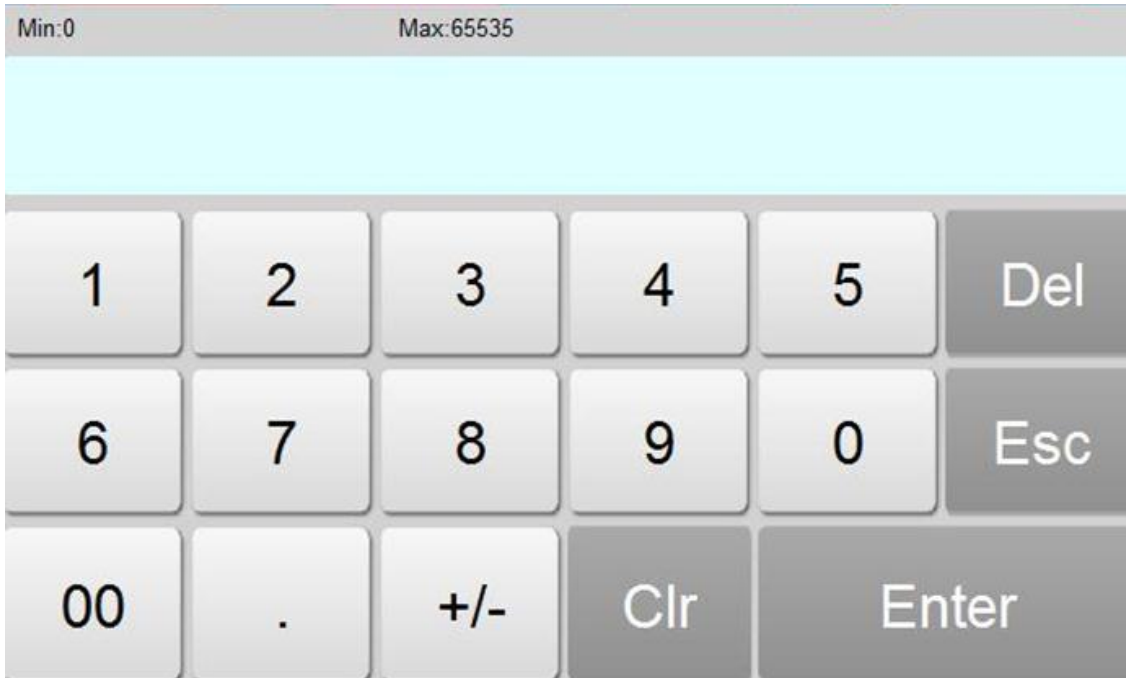

Figure 4-77
- Enter value: You can select a different data type; input a value between the maximum and minimum with a keyboard popping up after the word button being touched. As shown in Figure 4-77: